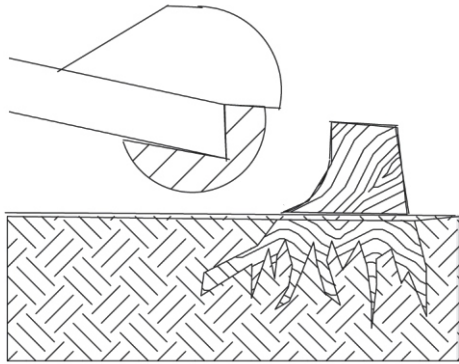

Fig. 5 Positioning cutter wheel to outside edge of stump
- d. Release break lever, reposition the machine to the remaining outside edge of the stump (see Figure 5).